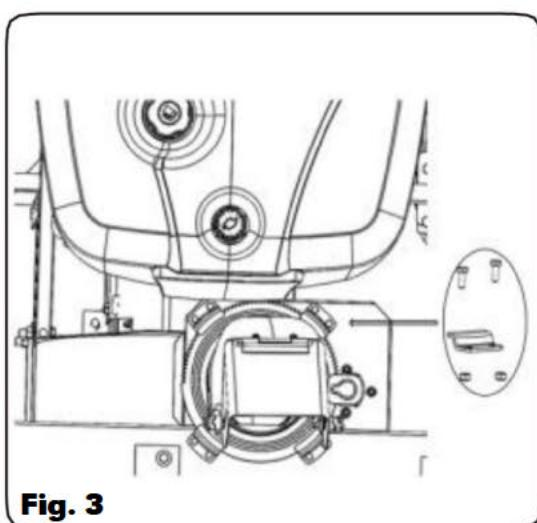

**Fig. 1**
- Mount the center mounting plate on the ATV chassis with four U-bolts, four washers and four nuts. Tighten the bolts. (Fig. 1 and 2)